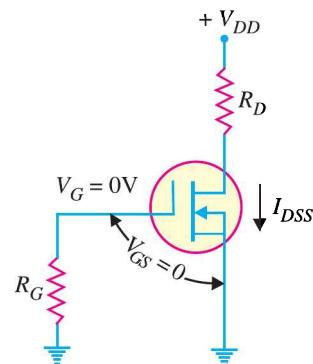

Fig. 19.51
We can use the simple circuit of Fig. 19.51 to provide zero bias. This circuit has  $V_{GS} = 0V$  and  $I_D = I_{DSS}$ . We can find  $V_{DS}$  as under :
**Example 19.32.** Determine the drain-to-source voltage ( $V_{DS}$ ) in the circuit shown in Fig. 19.51 above if  $V_{DD} = +18V$  and  $R_D = 620\Omega$ . The MOSFET data sheet gives  $V_{GS(off)} = -8V$  and  $I_{DSS} = 12mA$ .